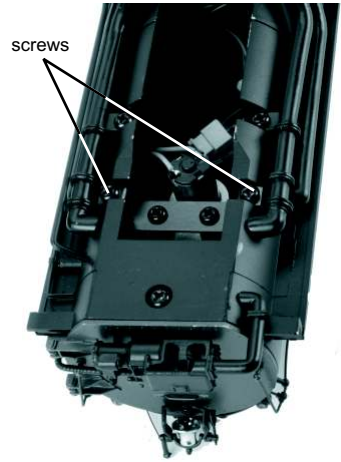

Figure 18
1. Unplug the two wiring harnesses from the board mounted to the inside of the boiler and behind the smoke unit. 2. Remove the two screws securing the smoke unit inside the shell as seen in Fig. 18.
3. With the board free of the mounting screws, slide the assembly out of the boiler as seen in Fig. 18.